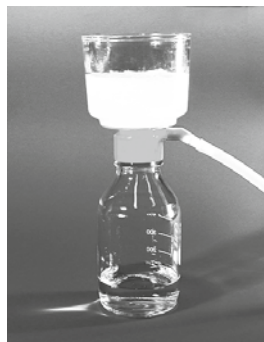

Figure 1: Correct use of the NucleoBond® Bottle Top Filter
- For the NucleoBond® AX 2000 (Mega) and AX 10000 (Giga) Column, use the supplied vacuum operated **NucleoBond® Bottle Top Filters** for filtration of the lysate. The bottle top filters (Figure 1) make the separation of the bacterial lysate and SDS precipitate easy, quick, and convenient. Adjust the bottle top filter to a suitable flask (e.g., Schott), load the bacterial lysate, and apply the vacuum. After 5 min the solution will have passed through. Load the resulting clear lysate onto the corresponding **NucleoBond® AX Column** and discard the bottle top filter.